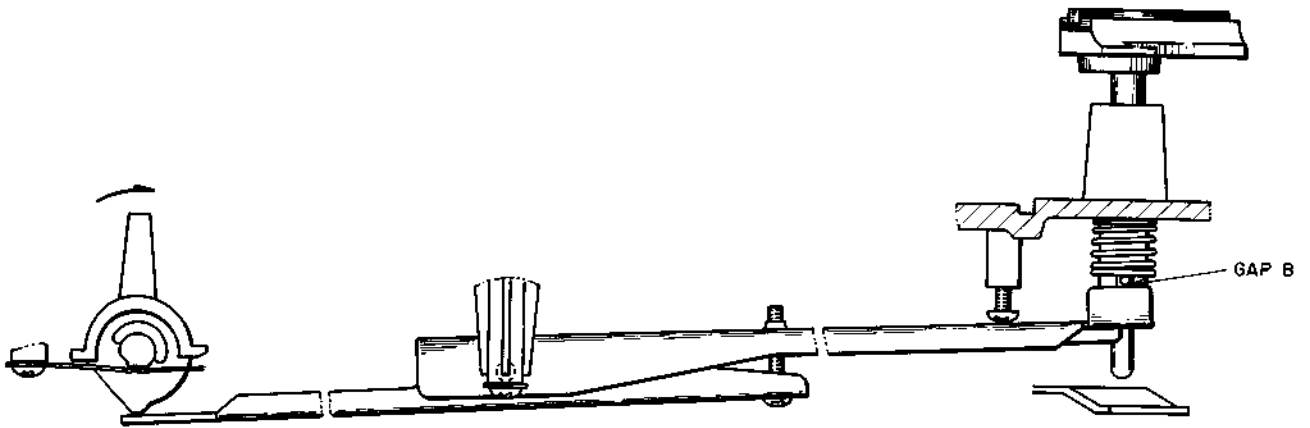

Fig. 10
- tion control at  $\nabla$ , adjust screw (b) at exactly the point where the gap (B) between the shaft pin and the elevation lever (A) disappears. (Refer to Fig. 10.)